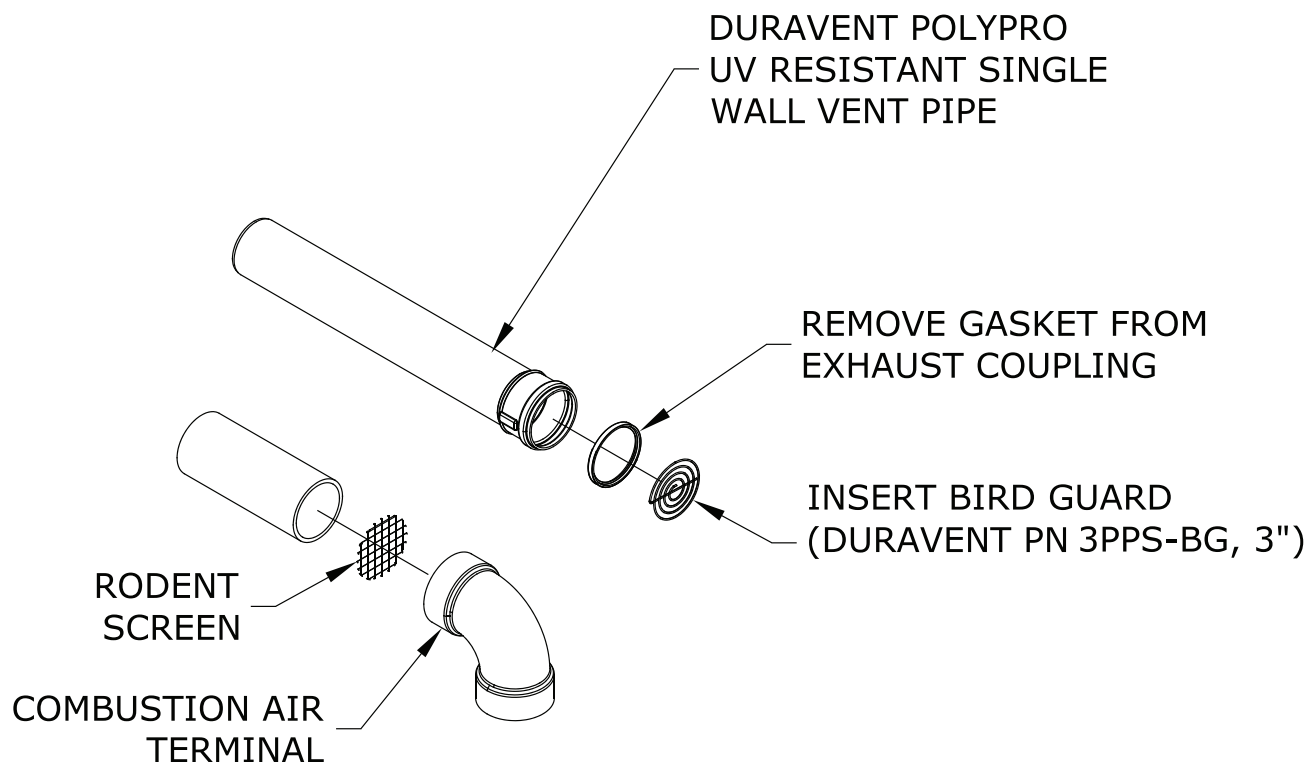

Figure 7.36: Installation of DuraVent PolyPro UV Resistant Single Wall Horizontal Terminal
- a. See Figure 7.36 for proper orientation of twin pipe horizontal terminals. Outer edge of exhaust coupling must be 10" or less from the wall surface. (Figure 7.9)